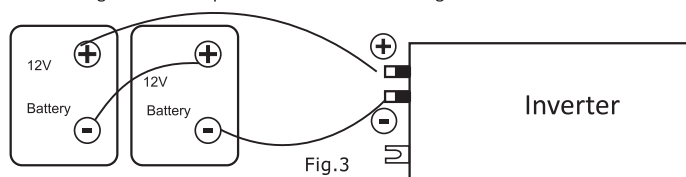

Fig.3
2) Multiple batteries in series connection(Refer to Fig.3): All batteries must be equal in voltage and amp hour capacity. The sum of their voltages must be equal to the nominal DC Voltage of the unit.